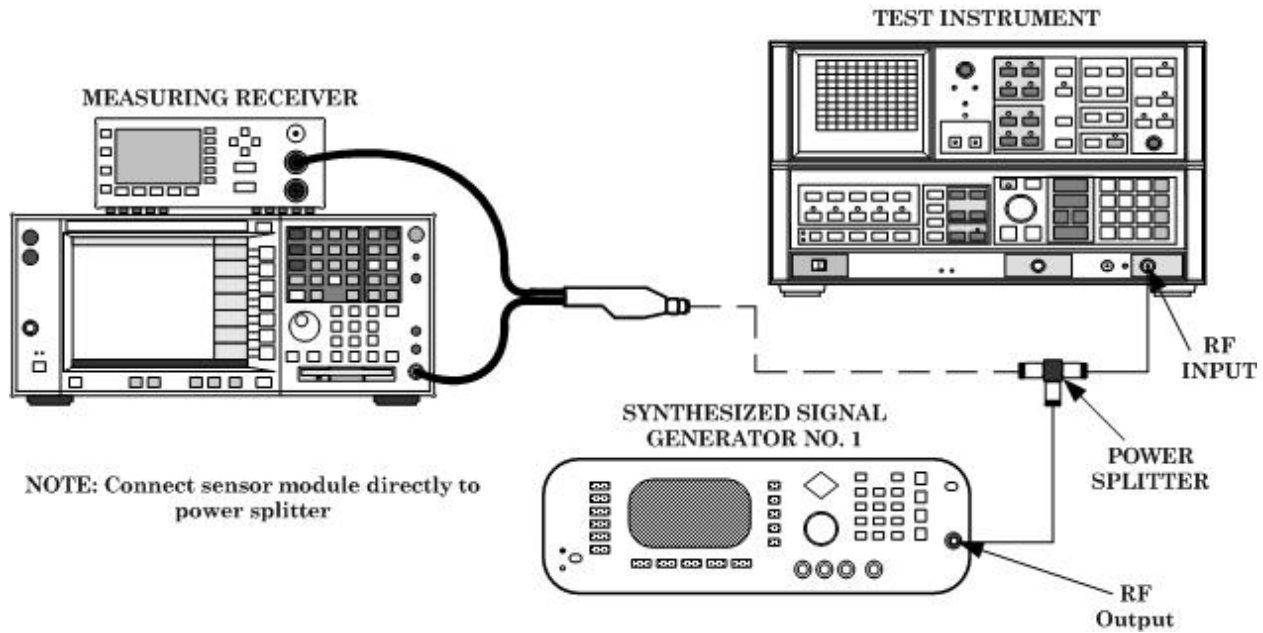

Figure 28. Frequency response connection 2.
(35) Disconnect signal generator RF output connector from the power splitter input.
(36) Connect equipment as shown in figure 28.